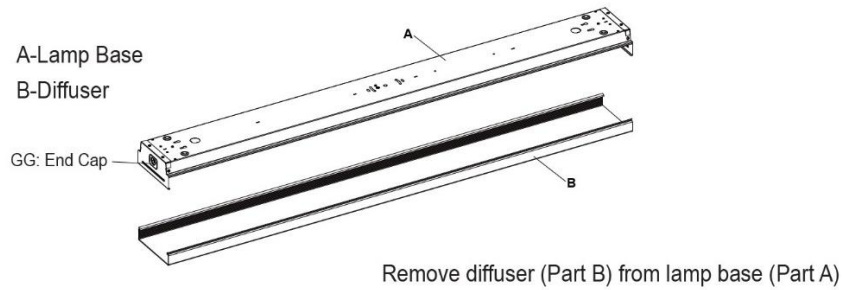
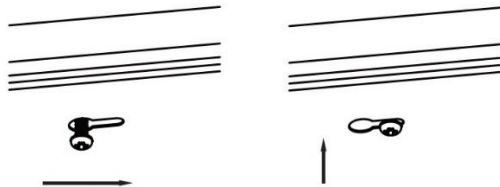
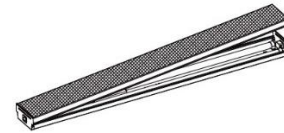

Figure 1
Figure 11
Figure 12
1. Attach the lamp base to the junction box by aligning the holes on the lamp base (Figure 1, Part A) with the screws on the junction box.
1. To install diffuser (Figure 1, Part B), start at one end of the lamp base and insert diffuser slot onto the edge of the lamp base (Figure 6).
- Hide cables with wire nuts in the junction box. Guide the heads of the four wood screws into the keyhole slots and slide the lamp base (Figure 1, Part A) in the direction such that the wood screw heads rest over the narrow part of the keyhole slot. Ensure that the fixture is supported and tighten the four wood screws until the fixture is secured to the mounting surface. (Figure 11)
- To install diffuser (Figure 1, Part B) - starting at one end of lamp base, insert diffuser slot onto edge of lamp base - See Figure 12. Carefully squeeze diffuser to engage opposite side with lamp base. Continue this action down length of diffuser until fully installed onto lamp base. (Figure 12). Turn on breaker and test light function.